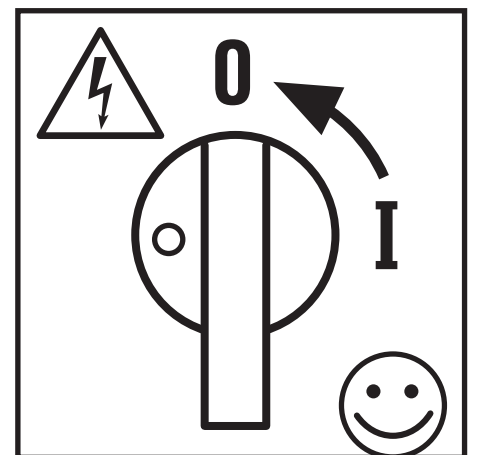

Fig.: 12
1. Allow for an external mains switch 1 (fig. 12) in order to be able to switch the system dead at any time.